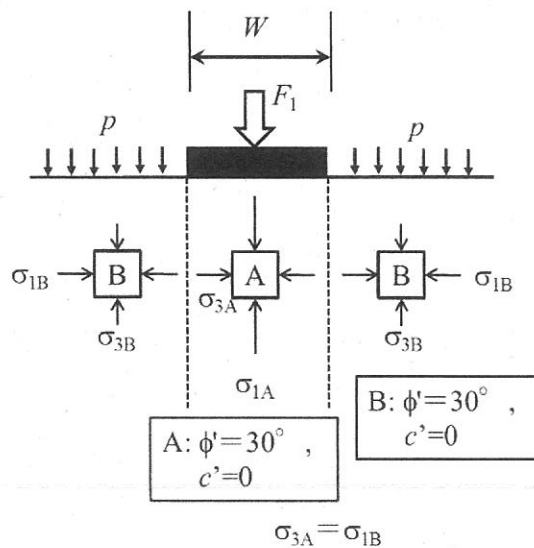

Figure 4
(1) Answer the following questions on consolidation of ground.
(2) Answer the following questions on vertical bearing capacity of a spread foundation having a width $W=2.0$ m that is constructed on ground with a surcharge $p=10$ kN/m². The effect of the self-weight of the subsoil material can be neglected. If needed, set $\sqrt{3} = 1.7$.
- Illustrate Mohr's circles of stress for the two types of stress state regions as shown in Fig. 4, where the subsoil material in these regions reaches the failure states, exhibiting an internal friction angle $\phi'=30^\circ$ without any cohesion ($c'=0$). Under these conditions, calculate the vertical bearing capacity F_1 in kN/m.